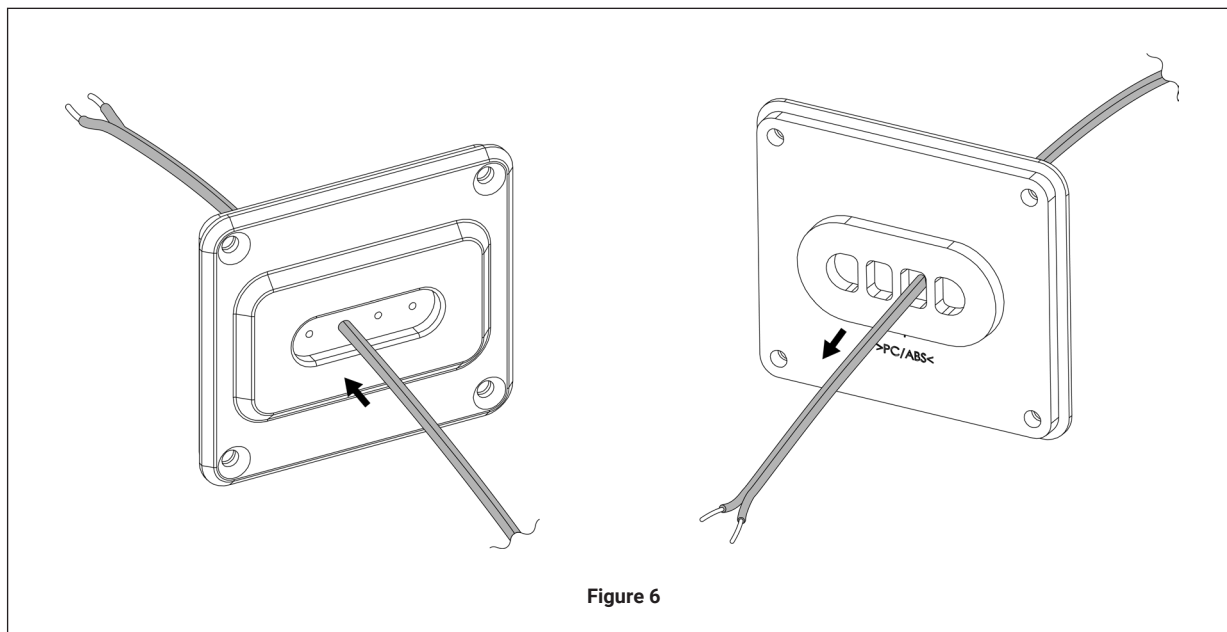

Figure 6
- Insert the cables through the holes in the rubber grommet and pull enough wire through so you can adjust the wire length as needed when making connections (Figure 6). If the wire cannot be pushed through the grommet, repeat step **b** above with a larger diameter drill bit. This may require stepping up the drill bit diameter until the wire can be pushed through the drilled hole.